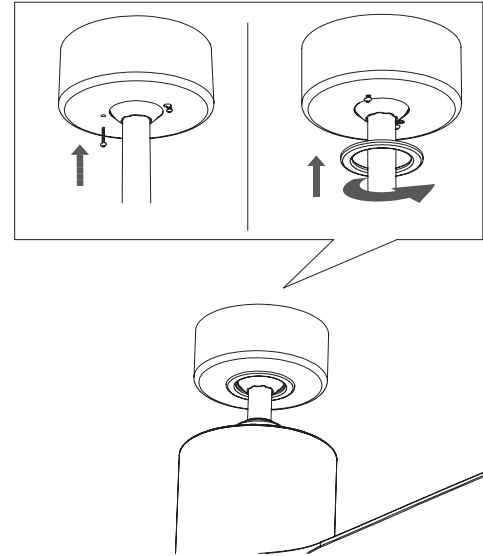

FIGURE 17
3. Slide the canopy up to hanger bracket and place the key hole on the canopy over the screw on the hanger bracket. Turn canopy until it locks in place at the narrow section of the key holes (**FIG. 17**).